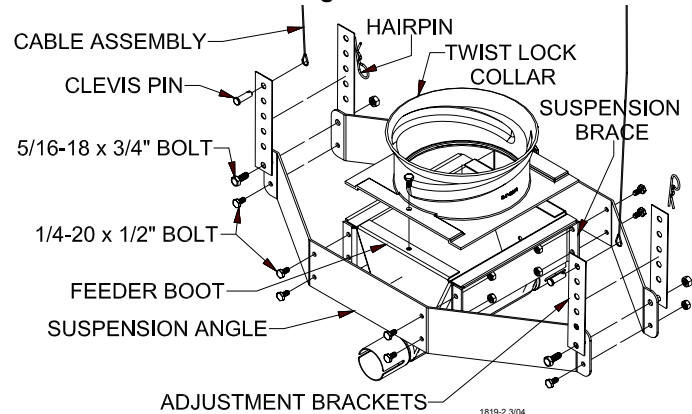

Figure 21.
3. Assemble suspension angles and suspension braces around feeder line boot (single or twin), using 1/4-20 x 1/2" Hex bolts and nuts (supplied in hardware package), **see figure 21**.
4. Assemble the twist lock collar to the top of the feeder line boot (single or twin) using 1/4-20 x 1/2" bolts and lock nuts (supplied in hardware package), **see figure 21**.
6. Two cable assemblies (cable with a sleeve clamp and a 5/32 thimble) are supplied with the suspension kit to support the hopper. Attach the cable assemblies to the adjustment brackets using the top holes of the adjustment brackets, **see figure 21**.